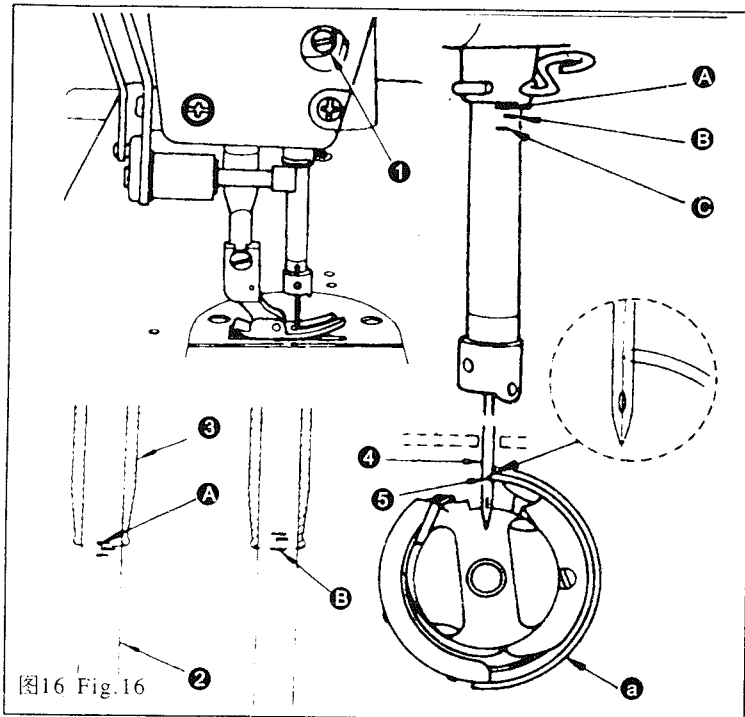

图16 Fig.16
12. 针与旋梭的关系(图16)
12. NEEDLE-TO-HOOK RELATIONSHIP (Fig.16)